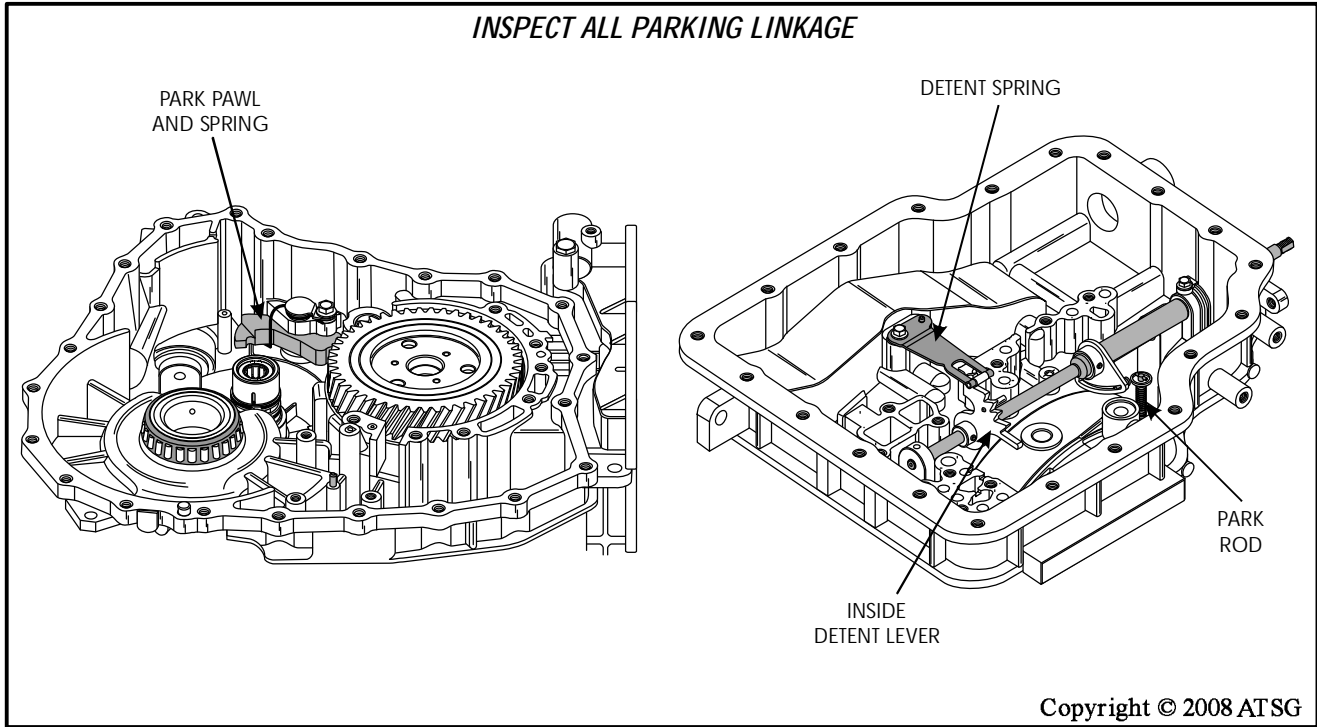

Figure 80
34. Inspect all parking linkage for any wear and/or damage, and for proper operation. Repair or replace as necessary. Refer to Figure 80.